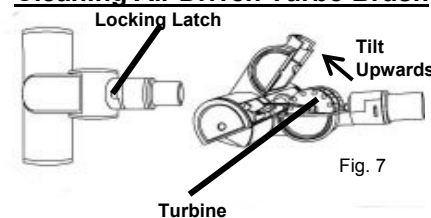

Fig. 7
2. Slide locking latch forward then tilt the top housing of the brush upwards. The top housing is hinged and will tilt up approximately 45° only. (Fig. 7)